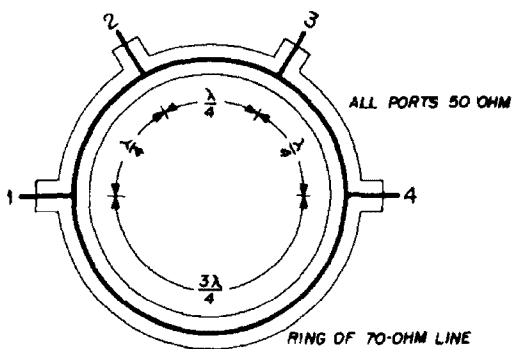

fig. 3. Coaxial rat race, or ring coupler. It can be used to balance similar sections of an antenna or as a balun.
3. The coaxial rat race (fig. 3). Sometimes called a  $180^\circ$  hybrid, this circuit may be used as part of a balanced modulator or to match or balance two equal loads (as in combining equal sections of an antenna array).